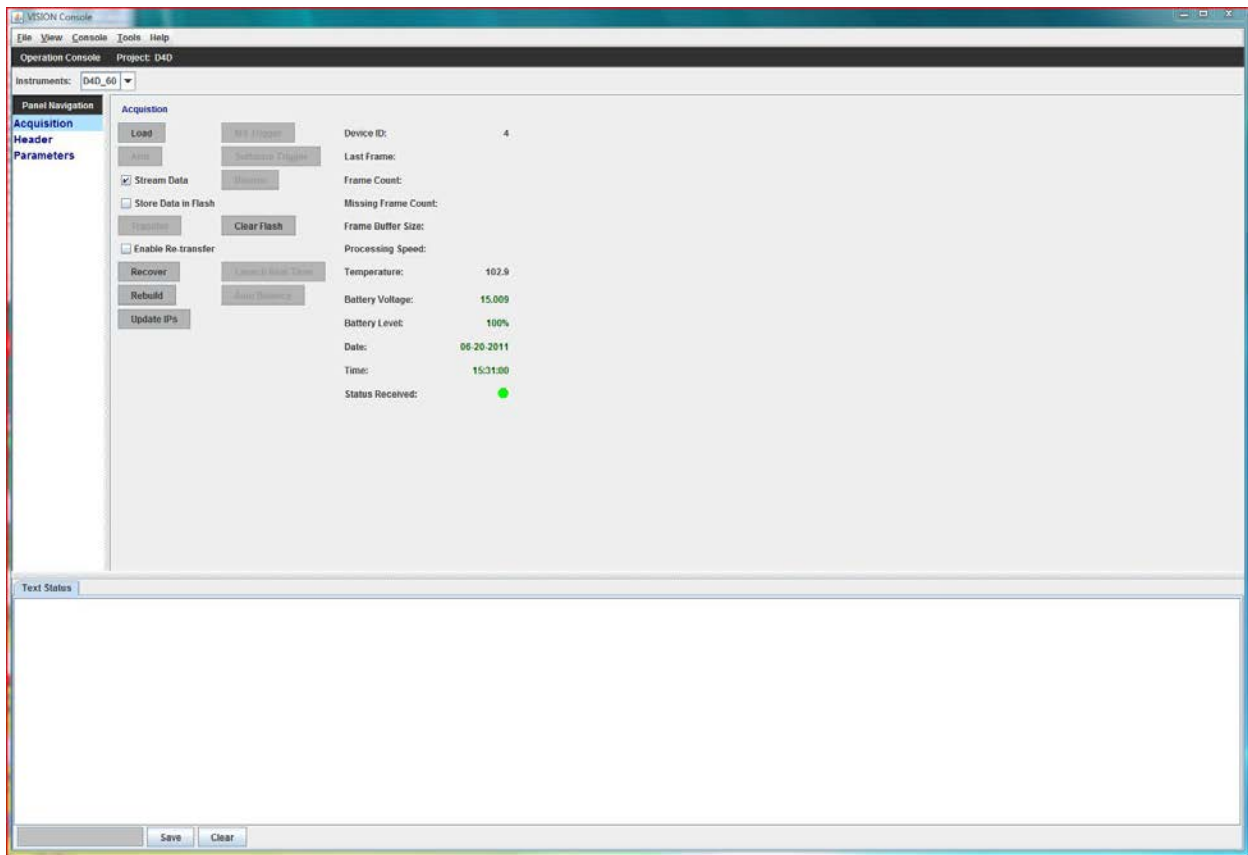

Figure A-9. BTSX console ACQUISITION tab when talking to the D4D.
b. The program will then open the main console panel in the ACQUISITION tab. If a D4D is powered on and connected to the computer, then this panel should open with the operational controls and status panel for the D4D displayed. At the bottom is the test status panel. Note that there is no monitor panel or hardware monitor panel. On the left are the Acquisition, Header and Parameters tabs. On the right is the status panel for the D4D. Included in the display are the serial number of the box, its temperature, battery condition, data and time, and a status indicator. The status indicator will blink and the temperature and battery displays will update if the status message from the D4D is being received. If there is more than one D4D connected, then additional status displays will appear for each box. If GPS is working, the time will be the current coordinated universal time. If GPS is not working, then the time will count up from box power on. If the console does not find the D4D, then this status panel column will not appear. In that case, the operator should click on the UPDATE IPS button. If this works, the status display should appear. If it does not work, then the operator should check the setup, close the console and open it again. See Figure A-9.